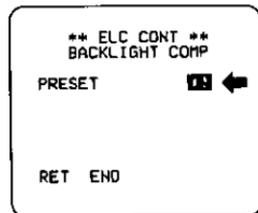

Fig. 60
- Move the cursor to the "PRESET" mode position and select the "ON" mode by using the Left Switch (<) (9) or Right Switch (>) (8). The preset mode menu is displayed on the monitor screen as shown in Fig. 60.